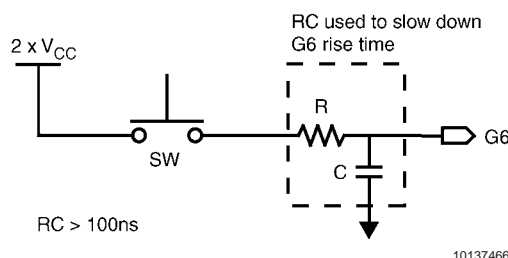

FIGURE 14. Circuit Diagram for Implementing the $2 \times V_{CC}$
4. After V_{CC} is valid and stable, connect a voltage between $2 \times V_{CC}$ and $V_{CC}+7V$ to the G6 pin. Ensure that the rise time of the high voltage on G6 is slower than the minimum in the Electrical Specifications. Figure 14 shows a possible circuit diagram for implementing the $2 \times V_{CC}$. Be aware of the typical input current on the G6 pin when the high voltage is applied. The resistor used in the RC network, and the high voltage used, should be chosen to keep the high voltage at the G6 pin between $2 \times V_{CC}$ and $V_{CC}+7V$.